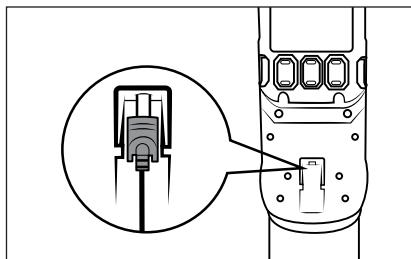

Fig. 8
- The vacuum cleaner can also be charged directly via the mains adapter **9**. To do this, remove the barrel plug **10** from the wall bracket **17** by turning it slightly and insert it into the charging socket **2** on the appliance (see Fig. 8).